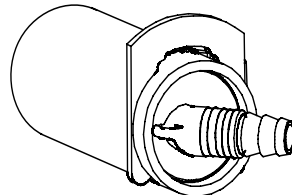

Figure 13
4. Secure the drain elbow to the valve using the black "U" clip (also in the parts bag) by sliding it into the slots in the drain port and into the grooves in the drain elbow (see figure 13).